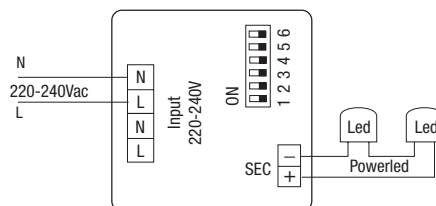

Fig. 2 - RN9167 - RN9167/BI
A - Funzione 0÷10Vdc (S10) - DIM34... (R) - Fig. 2 - Tramite segnale di controllo 0÷10Vdc
A - 0÷10Vdc (S10) function - DIM34... (R) - Fig. 2 - By means of control signal 0÷10Vdc